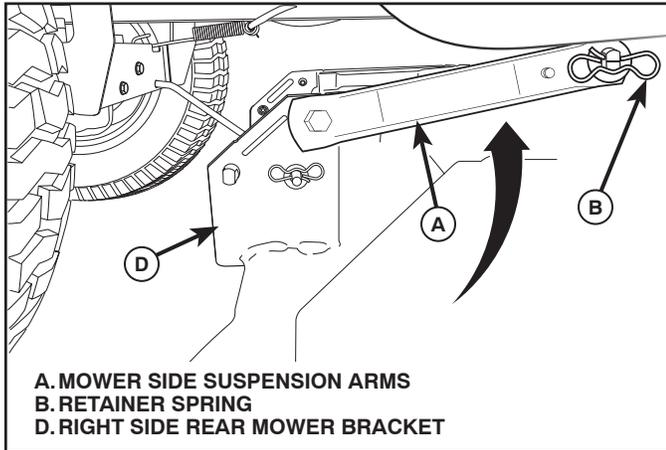

Fig. 33
## 6. ATTACH MOWER SIDE SUSPENSION ARMS (A) TO CHASSIS (See Fig. 33)
- Position front hole in side suspension arm (A) over pin on outside of tractor chassis and secure with large washer and large retainer spring (B).